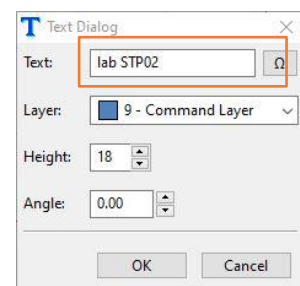

Figure 72
- b. In the Text Dialog simply rewrite "STP01" to "STP02" (Figure 72).